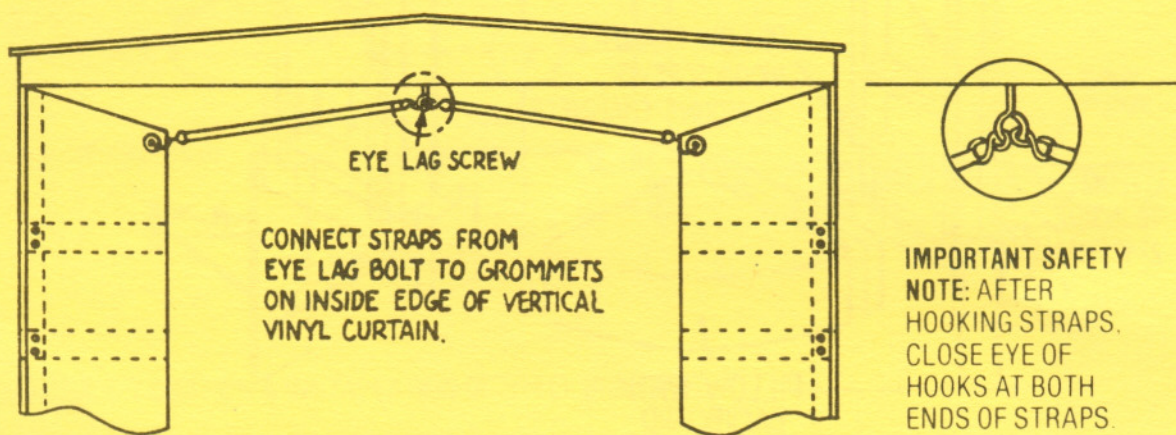

FIGURE 6. ATTACHING RUBBER STRAPS
10. Screw the screw eye into the pre-drilled hole in the center of the bottom/front of the rigid header. Connect the rubber straps from this screw eye to the grommets on the inside top corners of the vinyl verticals (see Fig. 6). End of strap with regular "S" hook goes to screw eye; end with extender hook goes to vinyl vertical. **IMPORTANT SAFETY NOTE: AFTER HOOK-**